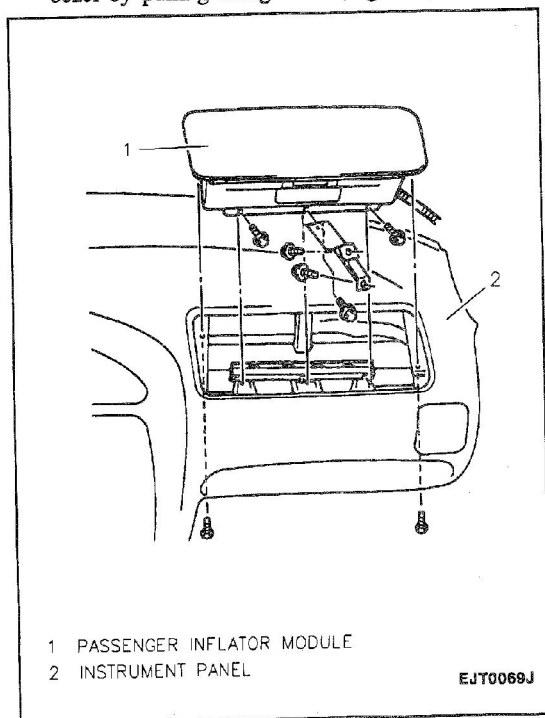

Figure 12—Passenger Side SIR Assembly
6. Two screws, three bolts and passenger side SIR module (Figure 12).